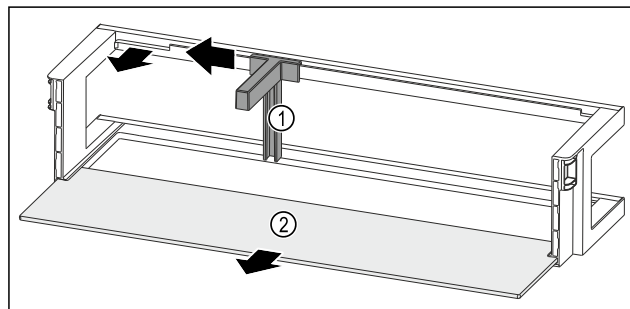

Fig. 276 Door rack with bottle holder and shelf
- Slide the bottle holder Fig. 276 (1) to the side as far as the recess.
- Remove the bottle holder Fig. 276 (1).
- Remove the shelf Fig. 276 (2).